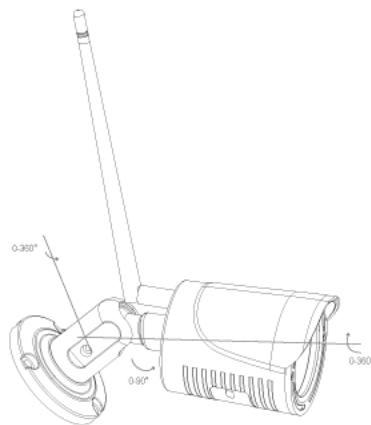

Figure 2-3 3-axis bracket adjustment
3. Adjust the 3-axis bracket: loosen the locking screw for the bracket and then adjust the bracket. By adjusting the shaft connection between bracket and the base to realize the direction adjustment. Horizontal (P) 0-360 degree, vertical (T) 0-90 degree, and rotating(R) 0-360 degree. Tightening the screw when it reach the appropriate scene. As show in figure 2-3.